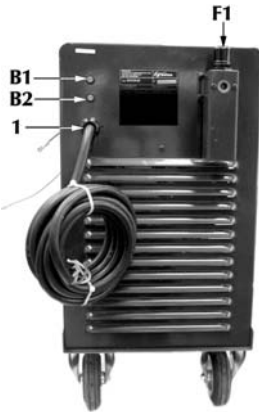

Fig. 2
2. Connect up the compressed air supply with a 1/4 inch to the air inlet P1 in the filter unit F1 (Fig.2). The pressure must ensure at least 5 bars with a flow rate of at least 200 litres a minute.
If operating faults occur in the generator it will be inhibited until normal operating conditions are restored. Press the gas test pushbutton (T2 in Fig 1) in order to remove residual impurities from the compressed air circuit, then lift and turn the knob to adjust the pressure (F1 Fig.2) until the display D2 shows a pressure reading of 5 bars (carry out the operation keeping the gas test button pressed down, so as to make the adjustment with air circulating in the piping).